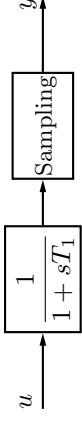

Figure 11.3a
11.3 Consider the system in Figure 11.3a, which illustrates sampling with prefiltering. Suppose we are sampling with the sampling period  $T$  and that  $u = u_0 + u_1$ , where  $u_0$  is an “interesting” low frequency signal in the frequency interval  $0 < \omega < \pi/T$  and that  $u_1$  is a sinusoidal control signal